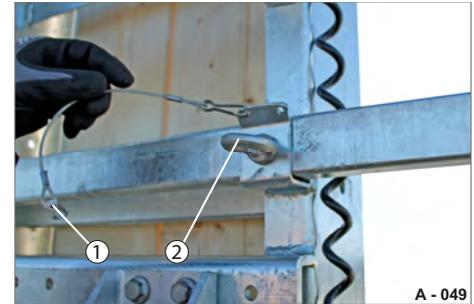

Fig. 71 Eye bolt unlocked
- ▶ Pull the cable with karabiner (Fig. 71/1) out of the eye bolt (Fig. 71/2).